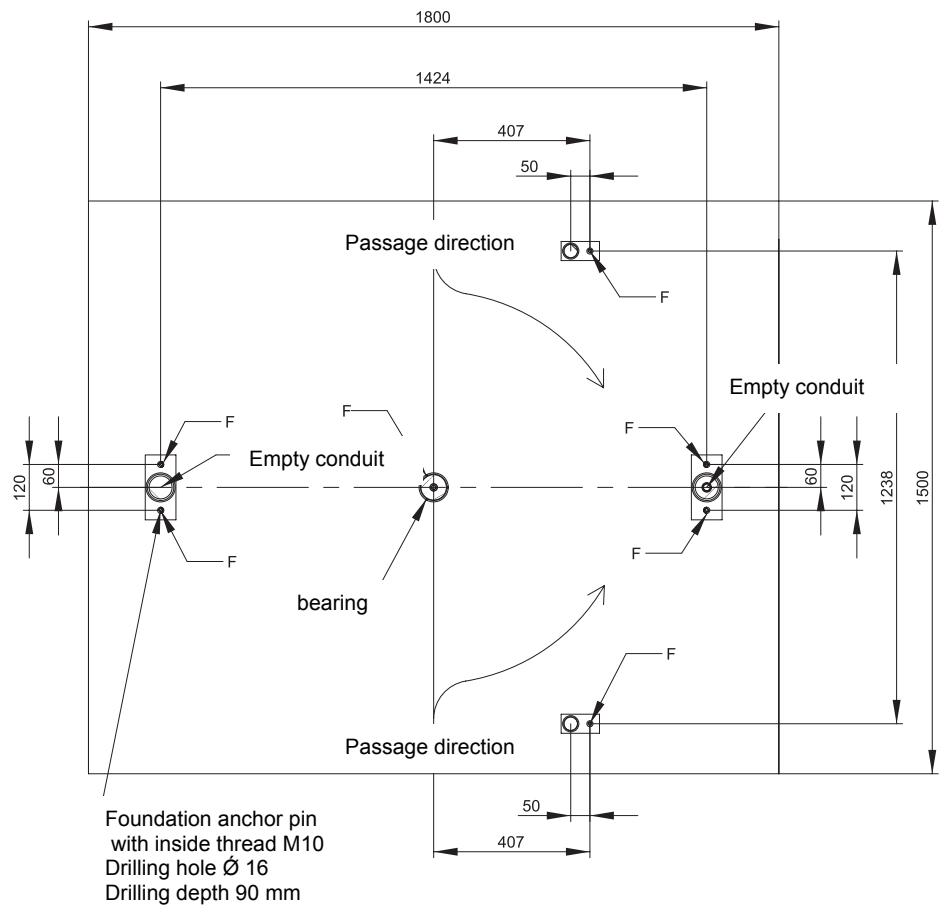

Fig. 2
A level concrete mounting surface is required to secure the turnstile housing. For the dimensions please refer to figure 2. The cables should finish a minimum of 5 meters above the finished concrete surface.
- Foundation drillings 7 x M16 as per drilling plan figure 2